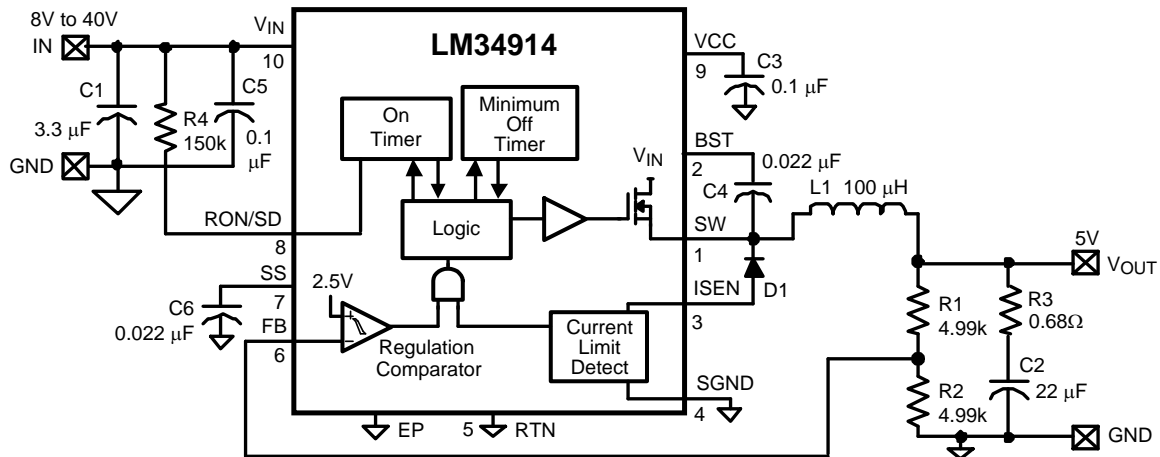

Figure 5. Lowest Cost Configuration
- Option C) Lowest Cost Configuration:** This configuration is the same as option B, but without C12. Since ≥ 25 mVp-p are required at the FB pin, R3 is chosen to generate ≥ 50 mV at V_{OUT} , knowing that the minimum ripple current in this circuit is 85 mA p-p at minimum V_{IN} . Using 0.68Ω for R3, the ripple at V_{OUT} ranges from ≈ 60 mVp-p to ≈ 120 mVp-p over the input voltage range. If the application can tolerate this ripple level, this is the most economical solution. The circuit is shown in Figure 5.